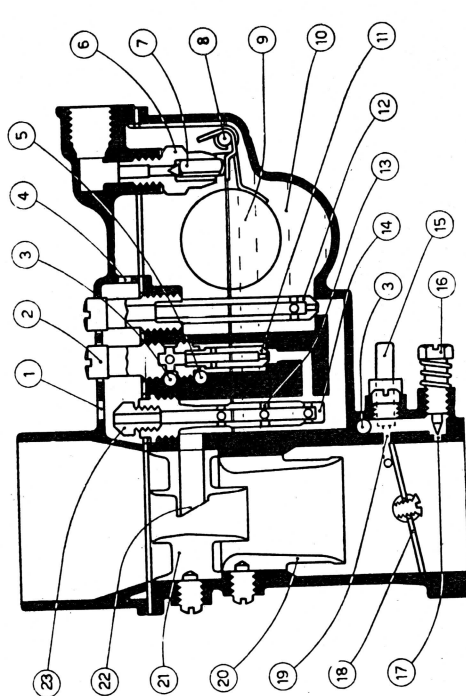

Fig. 62.—The Weber Single Downdraught Carburettor, Model DRSP.
The Model 30-32-34 DR SP (Fig. 62) is a single downdraught type for inlet manifold diameters of 30 to 34 mm. (at the butterfly throttle). The device for governing the fuel mixture consists of a throttle valve that is controlled by the accelerator pedal, by means of a lever attached to the throttle shaft.
The principle and operation of this carburettor are as follows:—Referring to Fig. 62 the air from above flows through the small venturi, or choke, (21) and then through the larger choke (20), and *via* the throttle butterfly valve (18), to the engine.